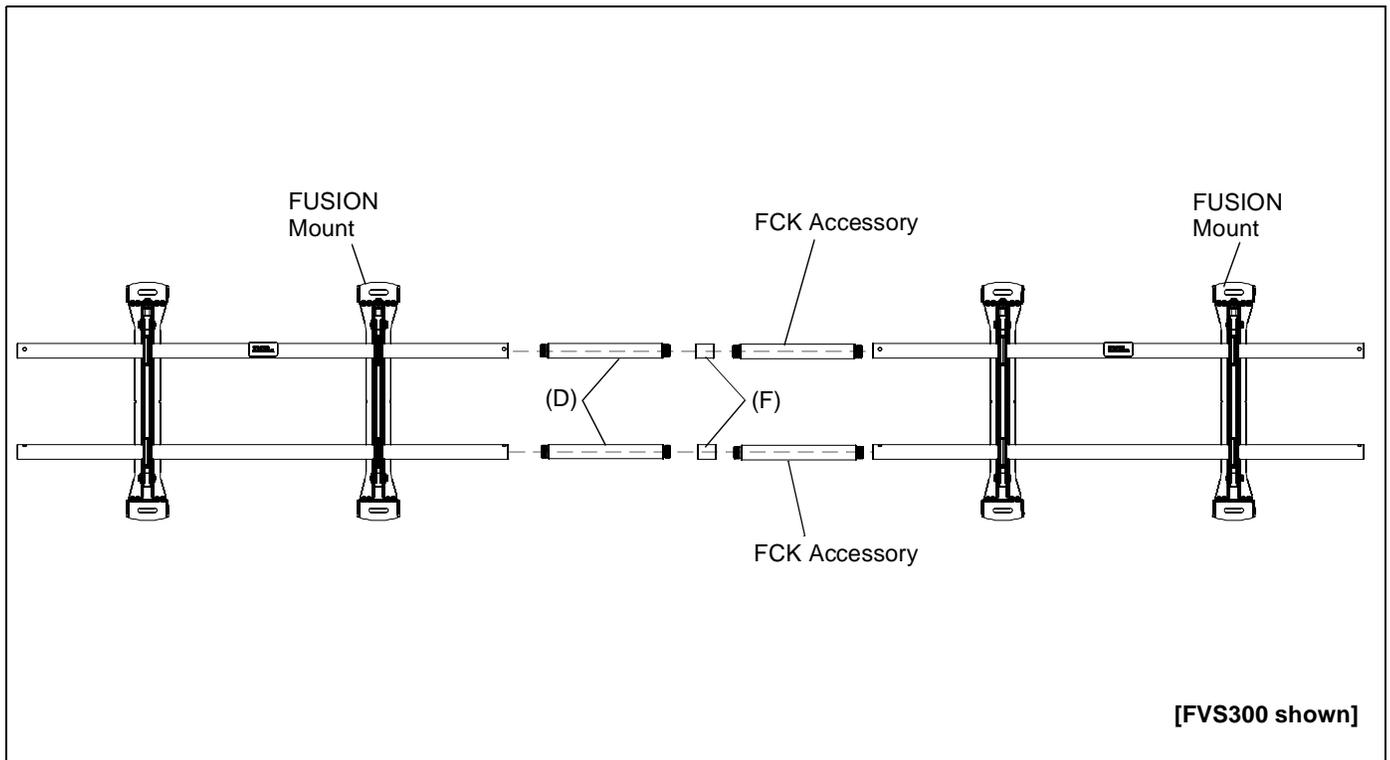

Figure 3
1. Attach mount connector union (F) to the FCK accessory.
2. Attach mount connector (D or E) to the mount connector union (F) for both the top and bottom rail. (See Figure 3)